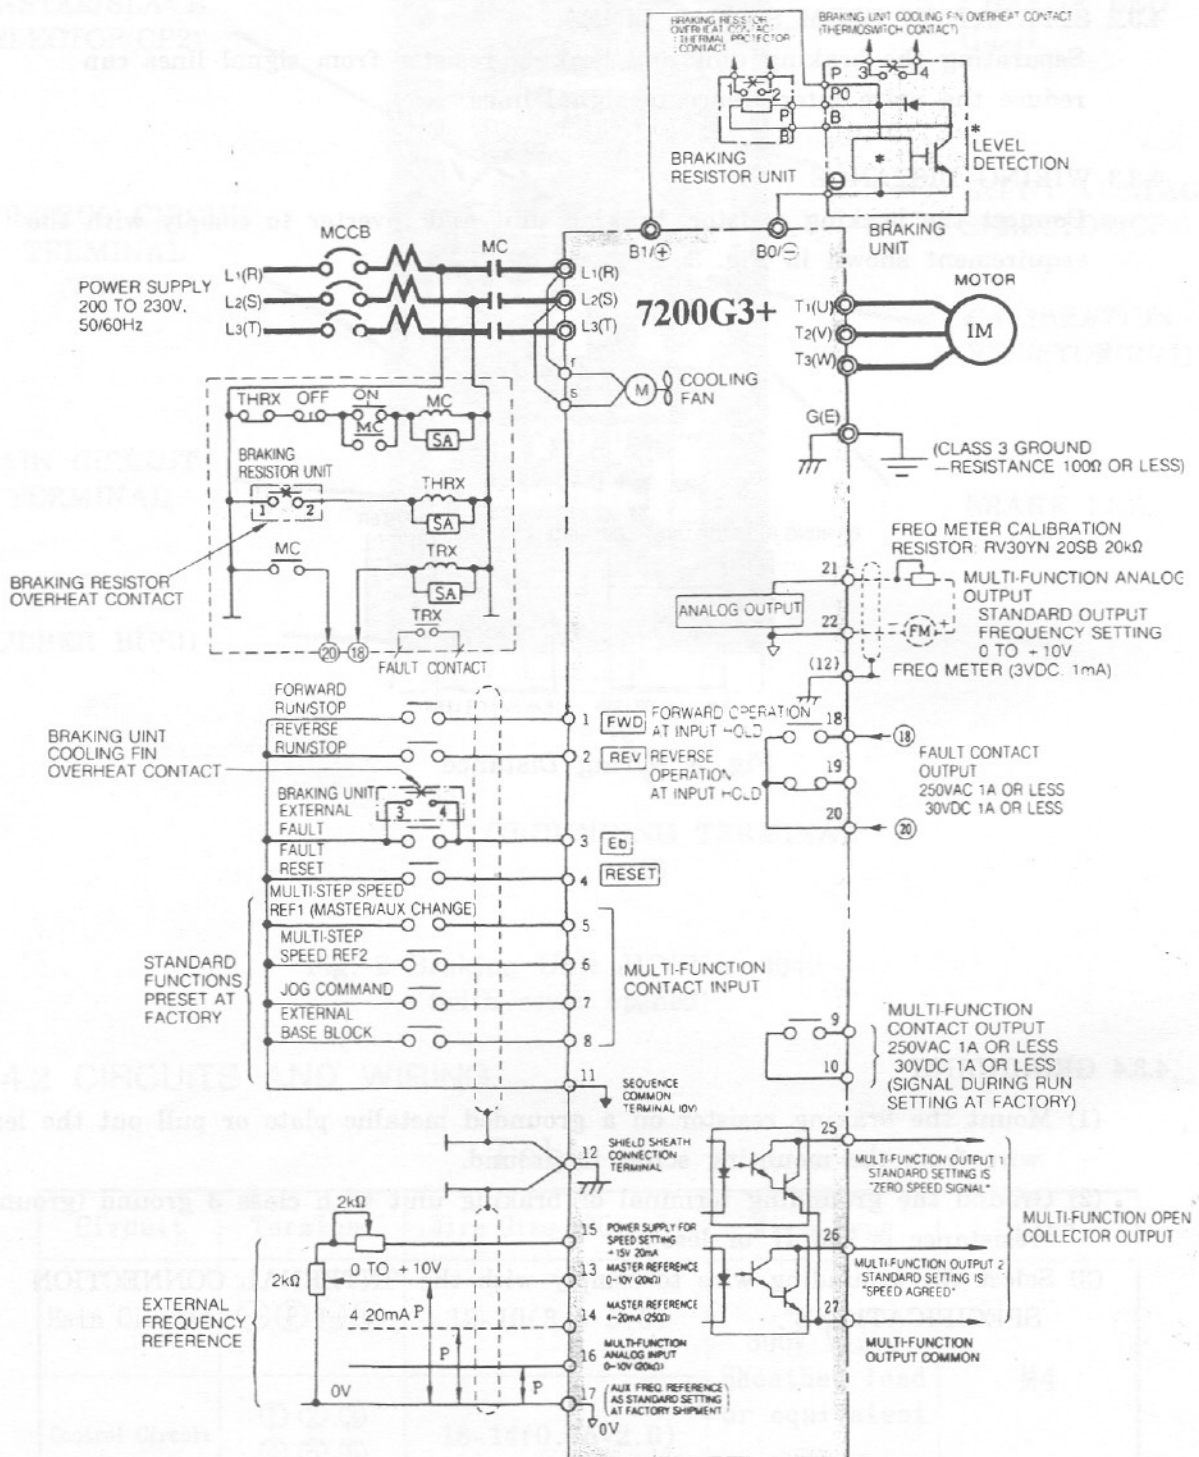

Fig. 4 Wiring Diagram for JUVPLV--0040-----
Fig. 4 shows the interconnection between the braking unit, braking resistor and 7200G3+. In Fig. 4 the braking unit JUVPLV--0040 ----- is taken for example.
- (2) Refer to Fig. 4 for proper wiring.
- (3) Set the CP1 (INPUT VOLTAGE SELECTOR) according to the power supply voltage.
- (4) Use twisted-pair leads for connection between ⑤ ⑥ and ① ② of the braking units.
- (5) Maximal quantity of parallel-connected braking units is 10. Refer to Par. 7.